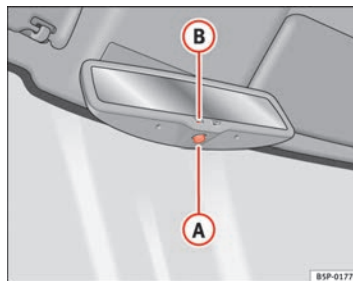

Fig. 62 Automatic anti-dazzle rear vision mirror.
- Press button **A** ⇒ fig. 62. Indicator lamp **B** goes off. ▶
- Press button **A** ⇒ page 98, fig. 62. Warning lamp is lit.